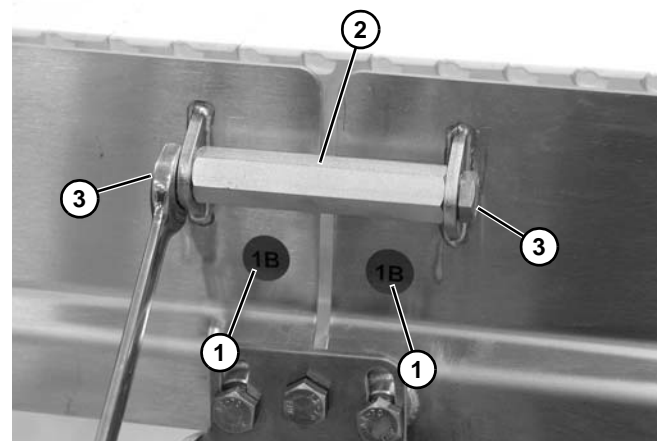

Figure 5
1. Locate and arrange conveyor sections by section labels (Figure 5, item 1).
2. Join both conveyor sections and install connector (Figure 5, item 2) with two screws (Figure 5, item 3). Repeat on opposite side. Tighten screws to 28-32 Nm (20-24 ft-lbs).